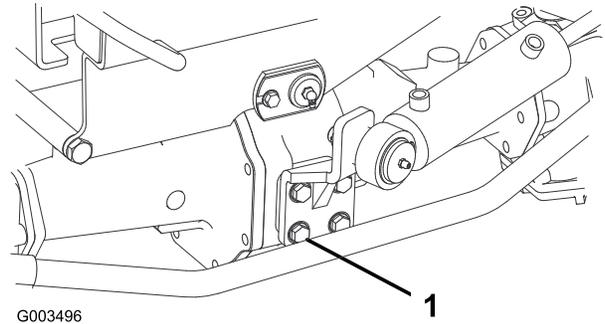

Figure 66
2. Torque the 4 bolts for the steering-cylinder mount (Figure 66) to 65 to 81 N·m (48 to 60 ft-lb).